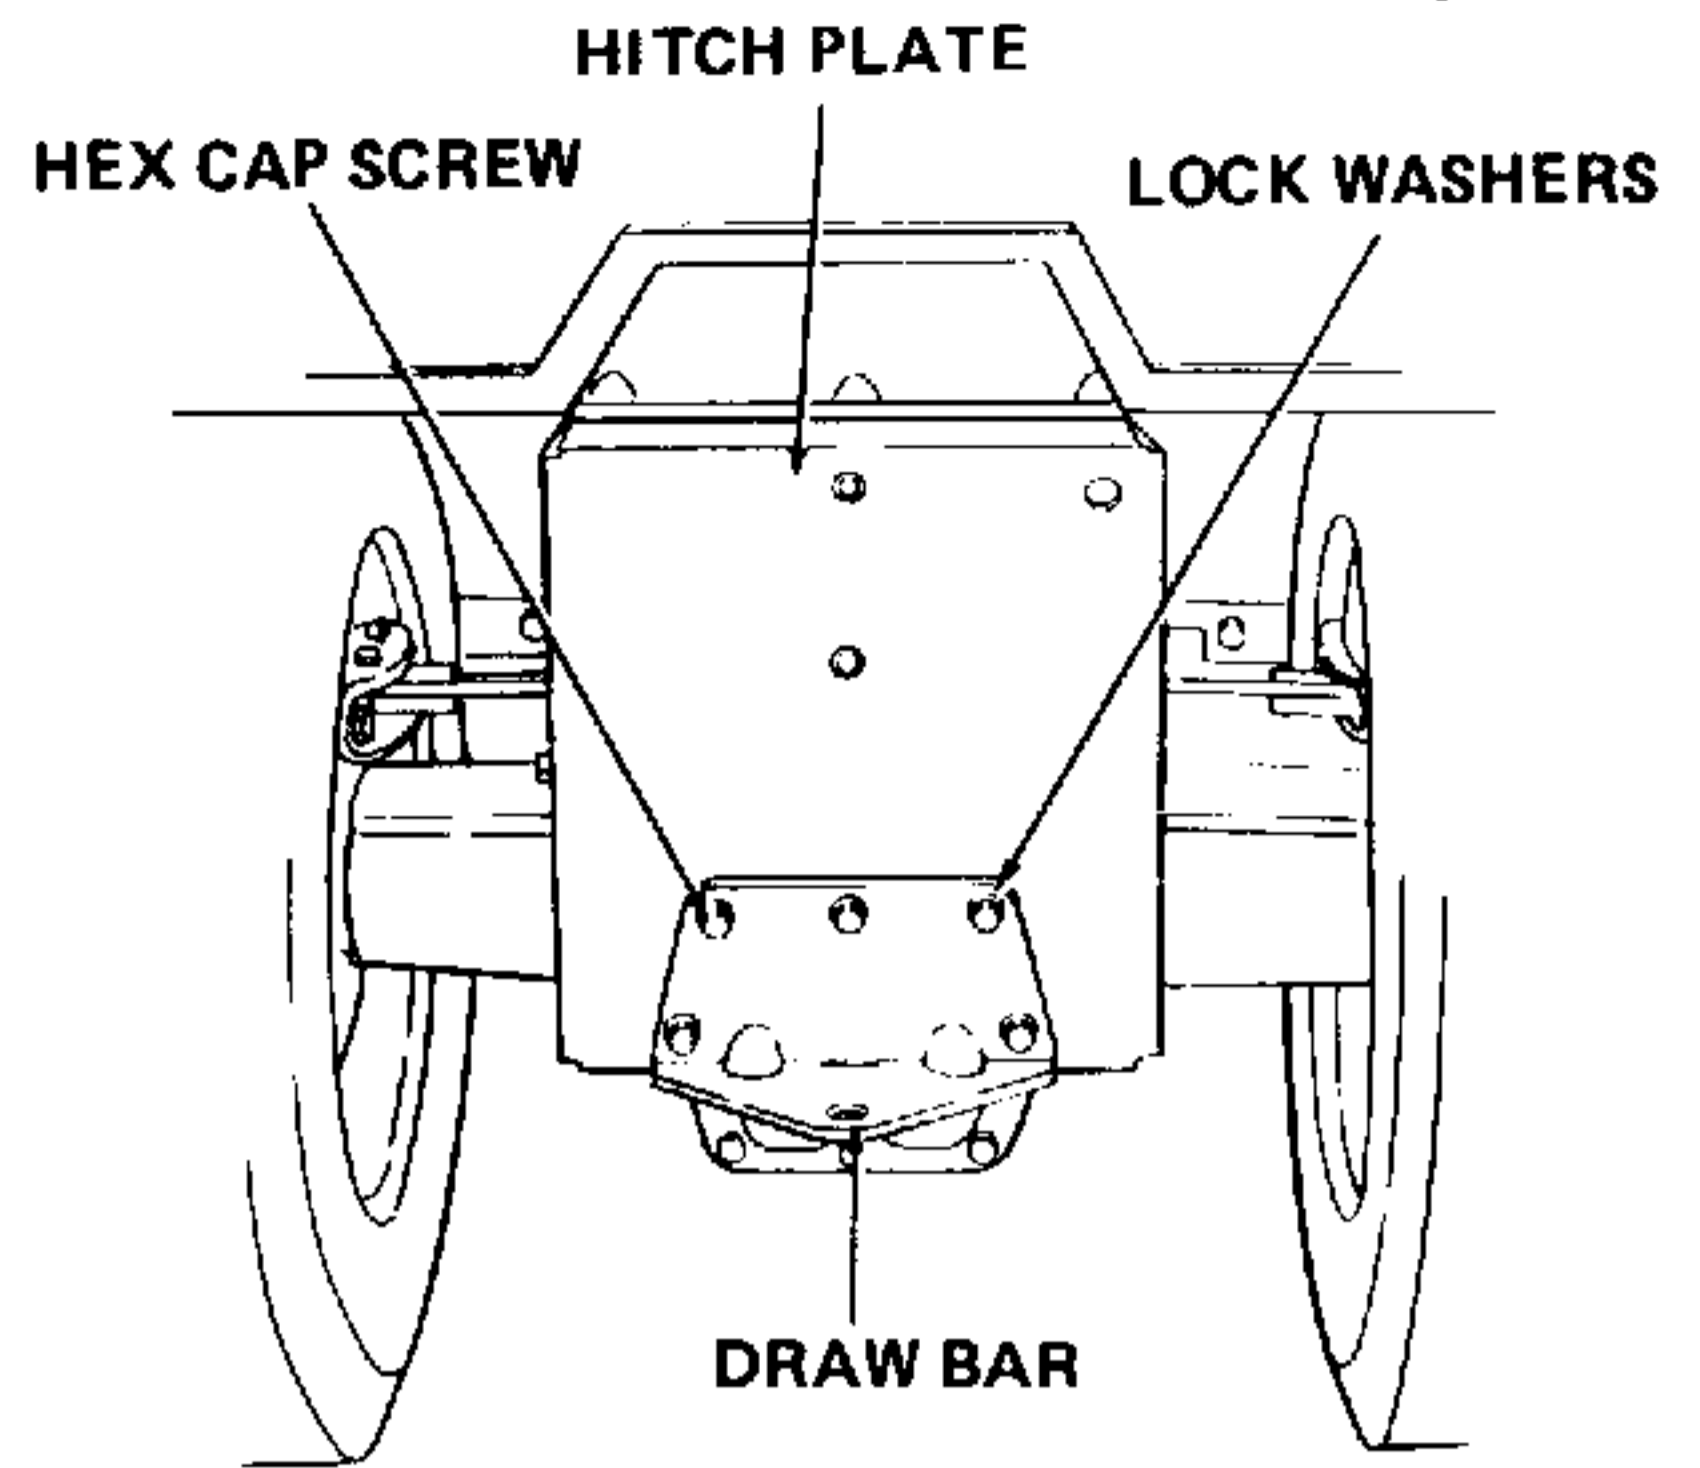

Figure 7-43. Removing Draw Bar From Hitch Plate.
- Remove draw bar from hitch plate by removing five hex cap screws and lock washers. Retain draw bar and mounting hardware. Refer to Figure 7-43.